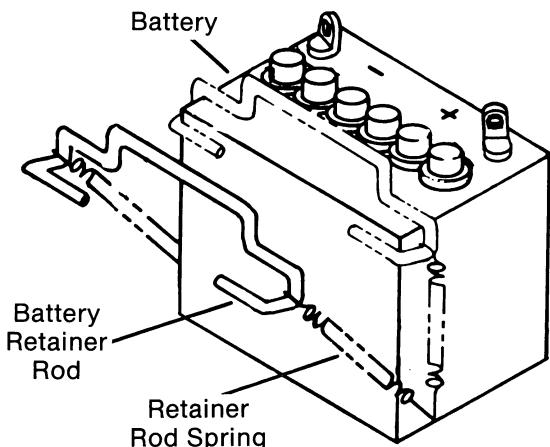

FIG. 31
- B. Turn ignition key "OFF". Remove battery retainer rod from battery and slide battery forward. (Fig. 31)